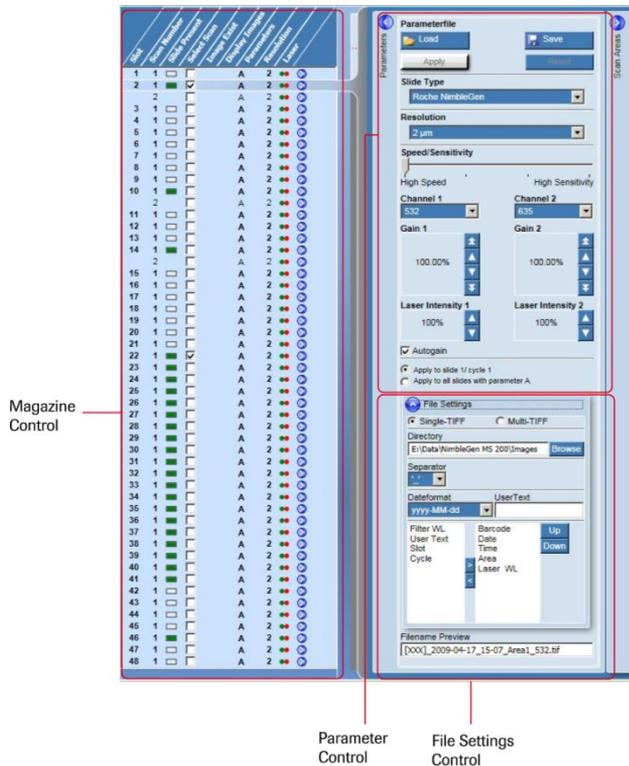

Figure 10: Magazine Control, Parameter Control, and File Settings Control
3. Confirm the Magazine Control (Figure 10) has a green box in the *Slide Present* field for each slide loaded into the slide magazine.
Use the Parameter Control (Figure 10) to set the parameters to use for scanning.
Use the File Settings Control pane (Figure 10) to specify image file settings:
6. *Optional:* To save the file settings to a file, click **Save** in the Parameters Control (Figure 10).
3. Check the **Autogain area** box , if the Autogain checkbox was selected in the Parameter Control (Figure 10).